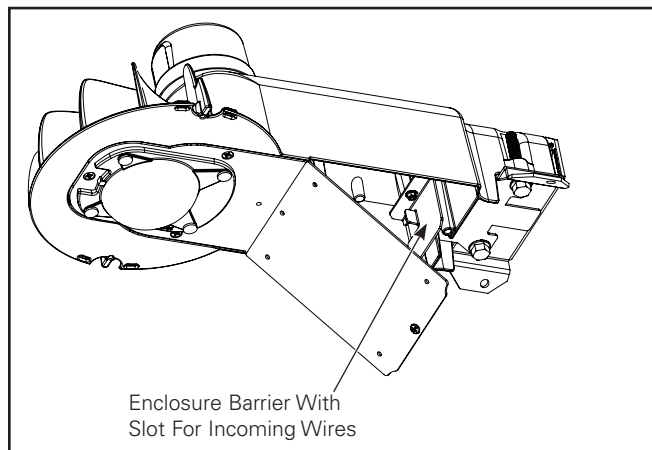

Figure 8.
1. Open fixture using screwdriver and allow access door to hang from ground tether. (Figure 8.)